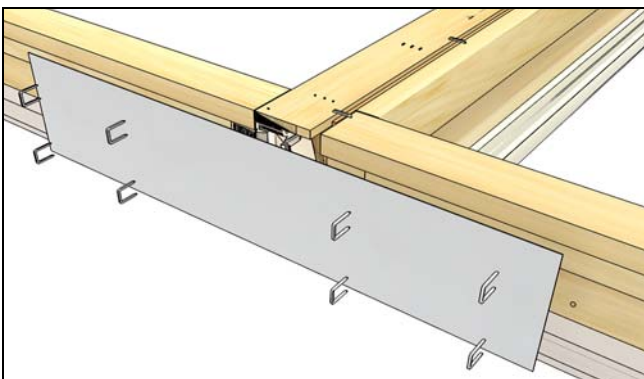

Figure 23
11. Staple the mull tin to both sides of the unit, avoiding corner keys. See Figure 23.